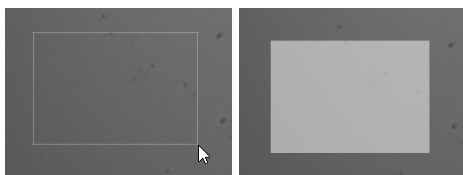

Figure 3-53 Drawing a square (l), square ready (r)
3. Press **SQUARE** to draw a square, see **Figure 3-53 on the facing page**.